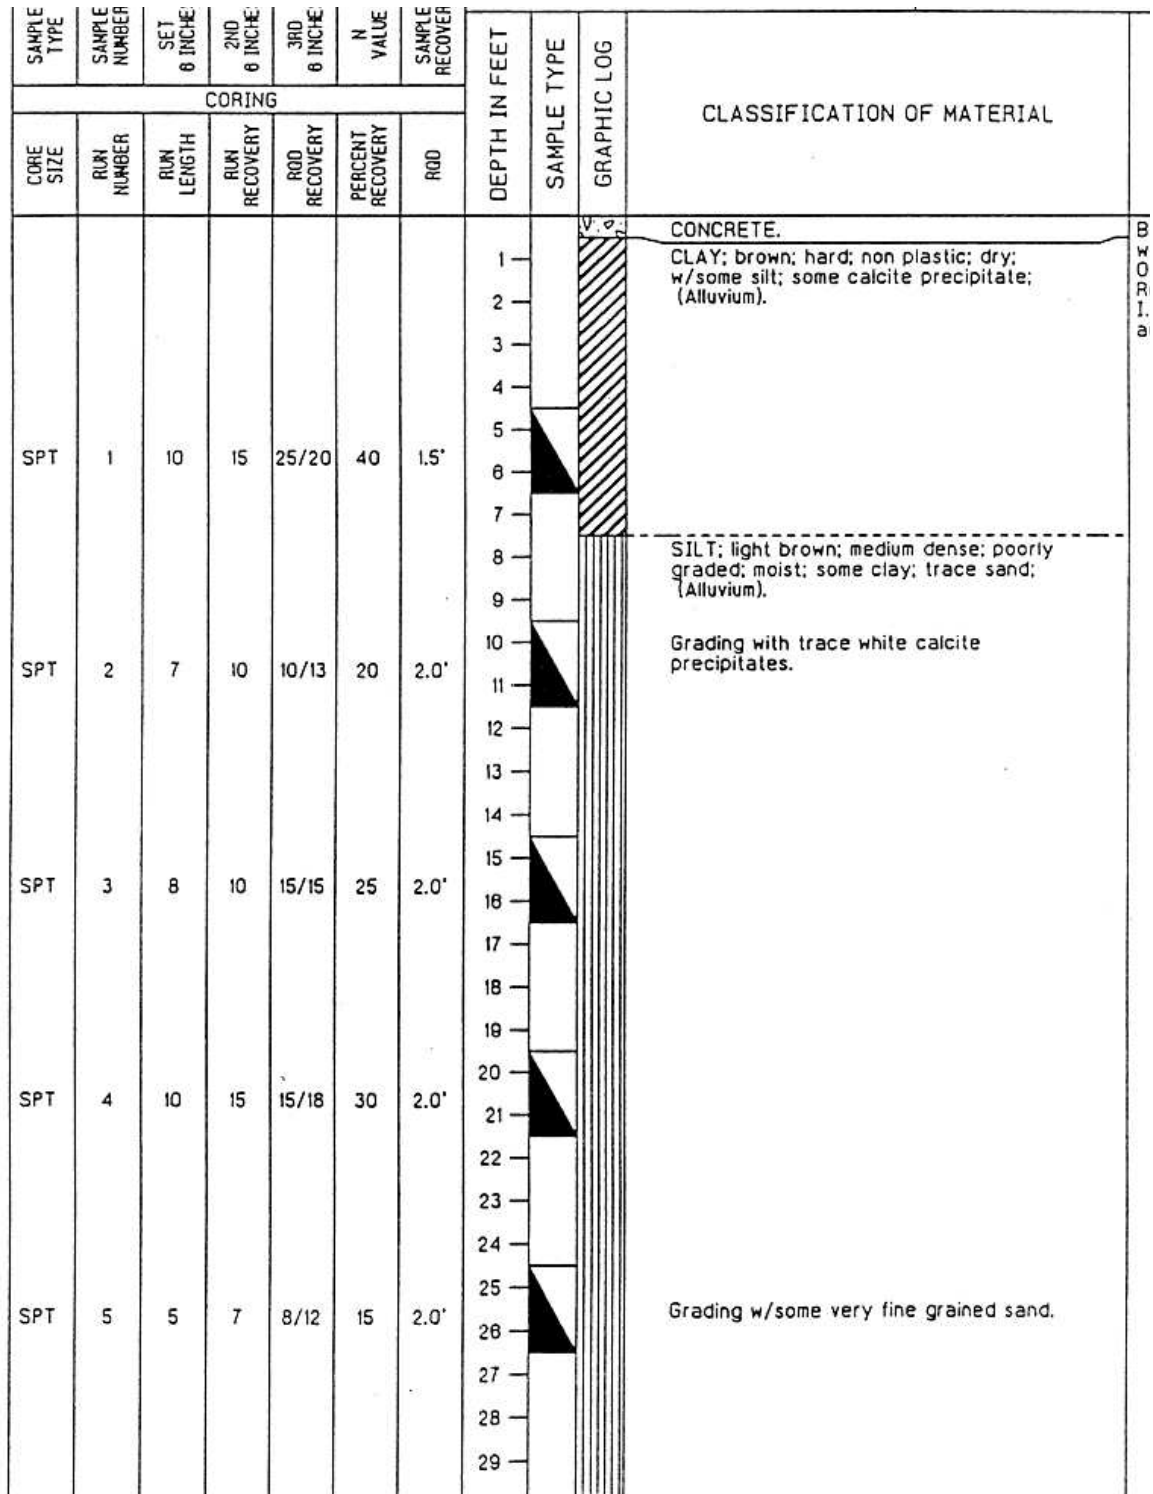

Figure 3: Upper portion of lithologic log for well CH-RW1.
Well logs are included at the end of this lab for the two wells installed by your company: CH-RW1 located adjacent to the original PCE source (a dry-cleaners, Fig. 2), and an observation well CH-OW1 located 23 feet to the west. Use these logs to help interpret the differences between well test results. Note that the well CH-RW1 encountered approximately 45 feet of silt/clay (Qt), underlain by 15 feet of sand (Qal), and stopped in bedrock Cretaceous clay (Kc) at a depth of 59 feet (Figs. 3–4). Well CH-OW1 encountered bedrock at 58.5 feet, overlain by 3 feet of sand (Qal), with Qt silt/clay above that. Logs are unavailable for LMW-10. Assume all wells have 11 feet of saturated thickness.
- A. select **Match/Solution**. Considering the setting of this test (see Figs. 3– 5), choose the appropriate solution method (if necessary repeat this to find the best choice).